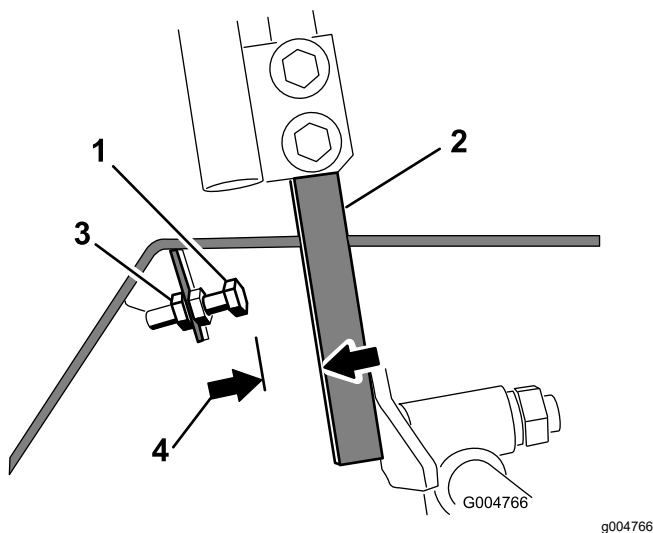

Figure 60
4. Loosen the jam nut on the stop bolt for a control lever (Figure 60).